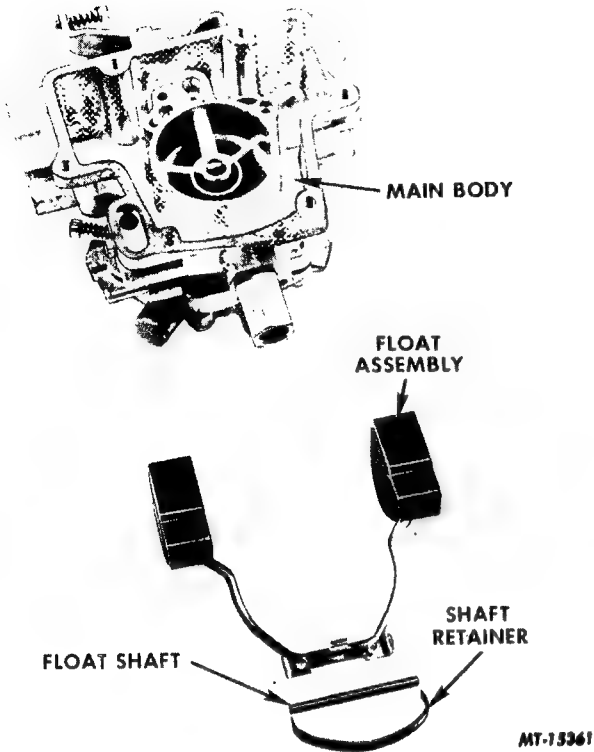

FIG. 21 Remove or Install the Float Assembly
2. Remove the fuel inlet valve and fitting assembly; remove gasket. Remove spring float shaft retainer, float shaft and float (Fig. 21).